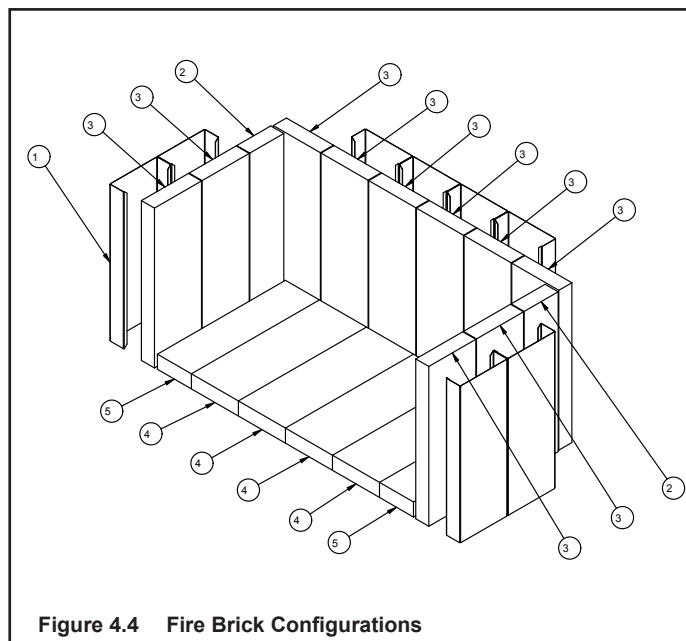

Figure 4.4 Fire Brick Configurations
- Remove new brick set from box and lay out to diagram shown in Figure 4.4.